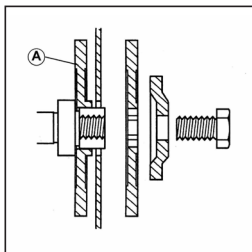

FIG. 1
- Install blade flange 'A' on the inner side when the arbor hole in the cutting disc is $\varnothing 22.2\text{mm}$ ($\varnothing 7/8"$). **(FIG. 1)**